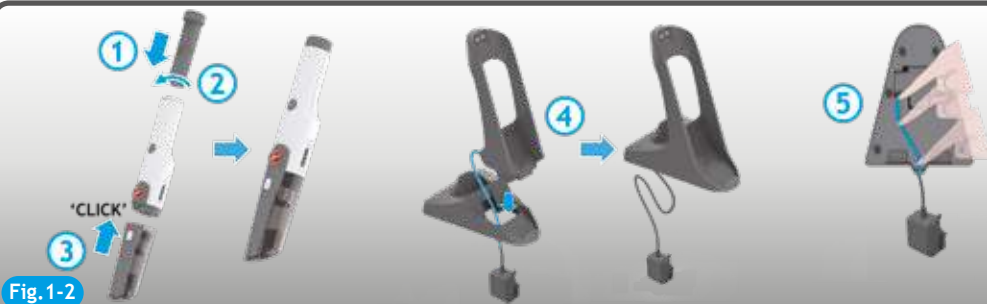

Fig.1-2
1. Insert the battery pack into the product handle and rotate the battery pack cover clockwise. [Fig. 1-2]